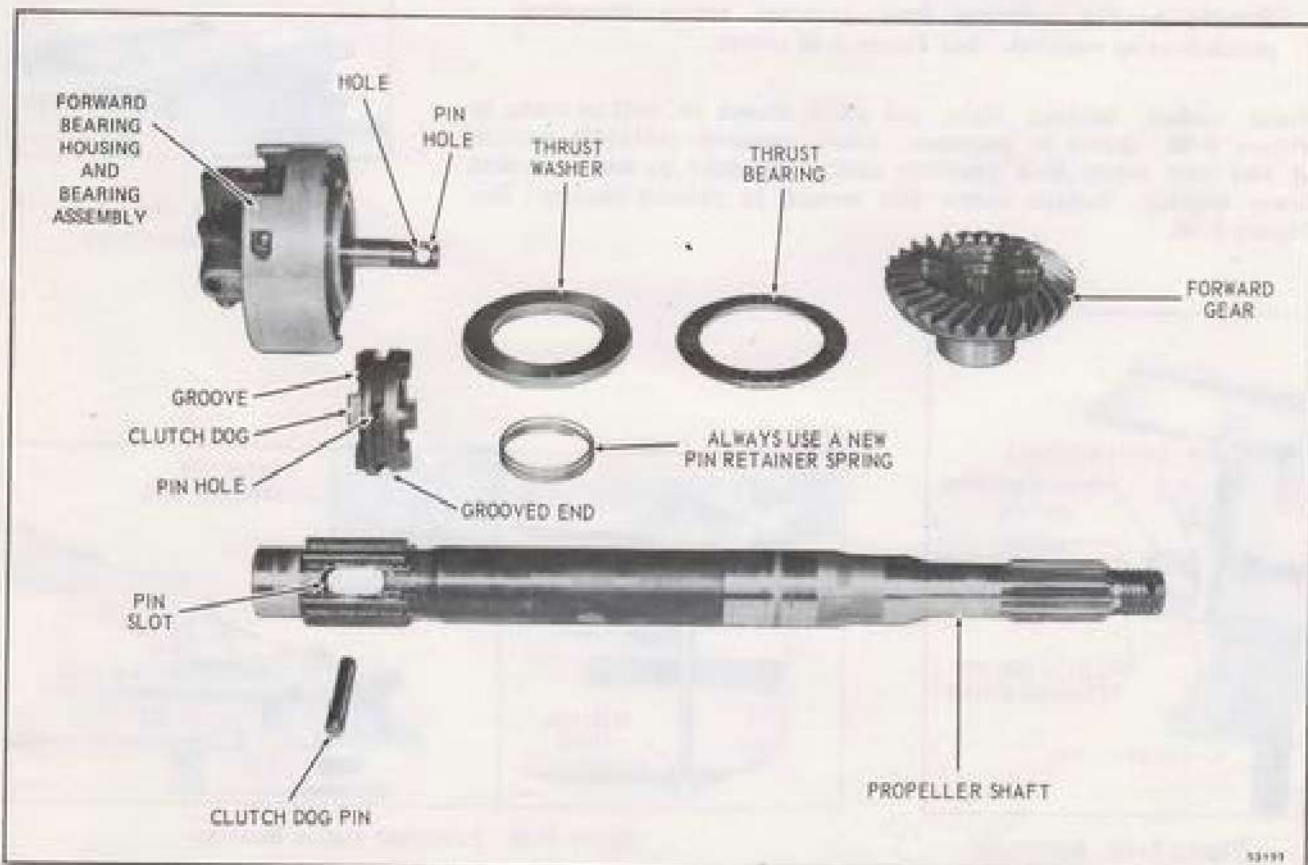

Figure 6-61. Propeller Shaft and Components
d. Align holes in clutch dog and slot in propeller shaft. Install clutch dog on shaft, grooved end on dog facing forward end of shaft. See Figure 6-61.